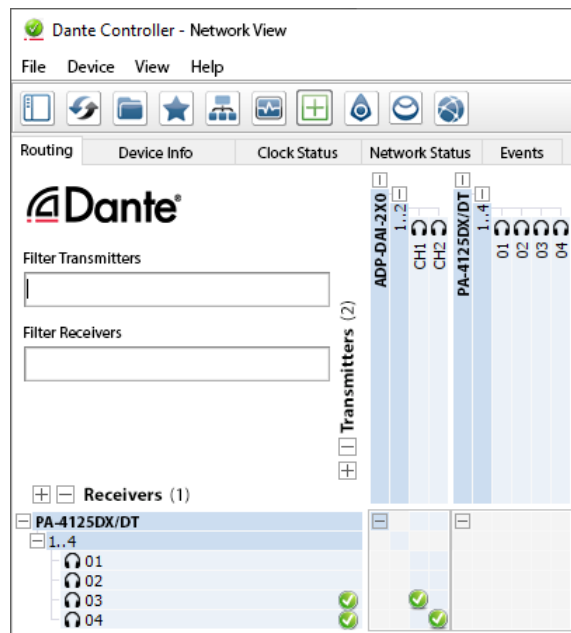

Fig. 38 Routing from ADP-DAI-2X0 to PA-4125DX/DT
- 1) In the row of a Dante receiver, click to show its channels for reception and in the column of the desired Dante transmitter, click to show its channels for transmission (see fig. 38).